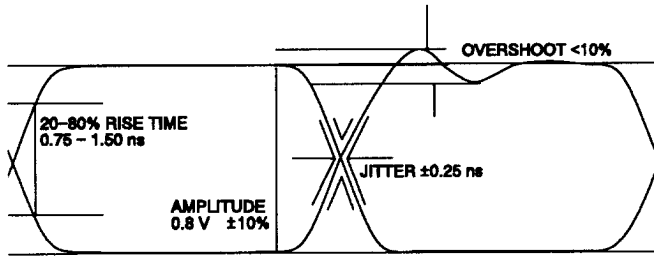

Fig. A-8. Eye pattern specs for the serial signal. Displays the amplitude, jitter, overshoot, and rise and fall times.
- a. Connect the equipment as shown in Fig. A-8.